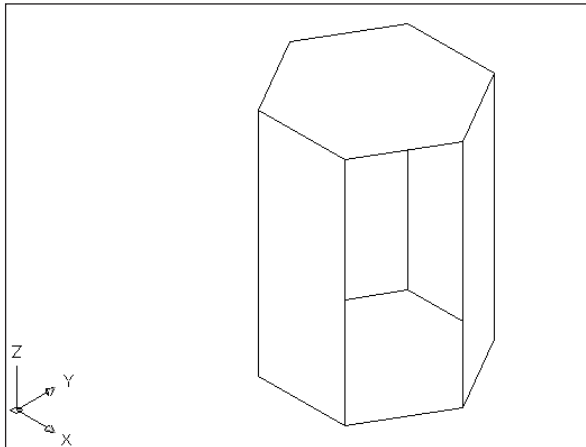

Figure 23-11: The completed hexagonal night table
5. Save your drawing. It should look like Figure 23-11.